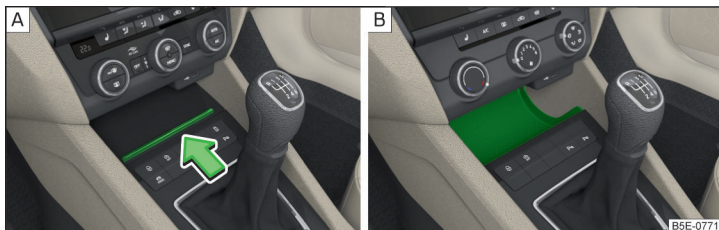

Fig. 97 Opening storage compartment/ non-lockable storage compartment
► To **open**, press the ridge in the direction of arrow » Fig. 97 - [A].
Certain models do not have a storage compartment lid » Fig. 97 - [B].